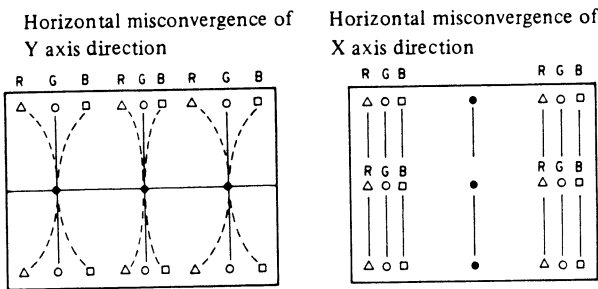

Figure 18
The Deflection Yoke (DY) used in this model generates an almost uniform magnetic field in order to get fine beam spot size. Accordingly basically misconvergence of horizontal direction as shown in Figure 18 is generated on the picture screen.